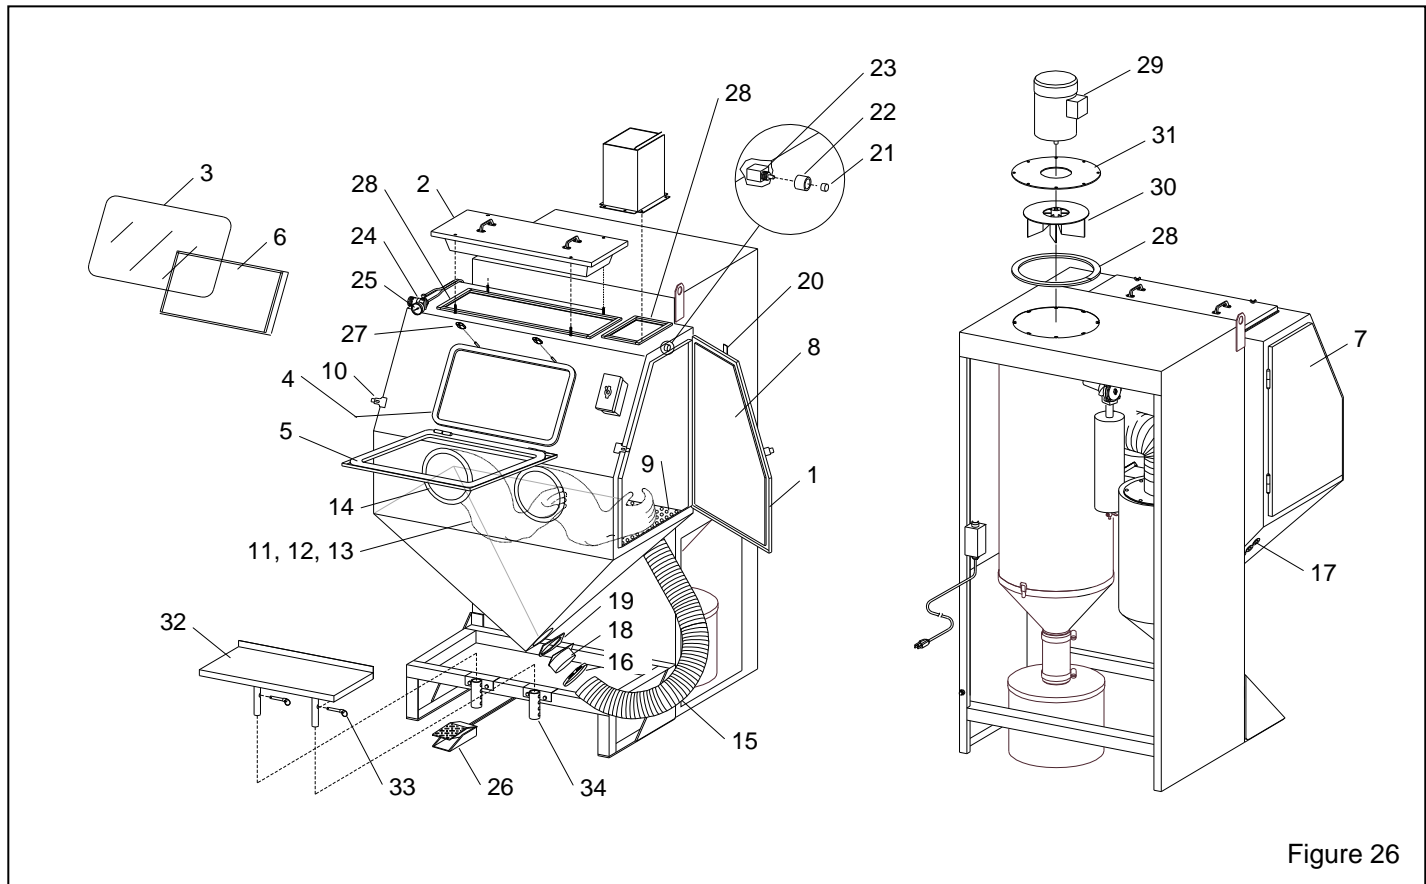

Figure 26
9.2 Cabinet Replacement Parts, Figure 26